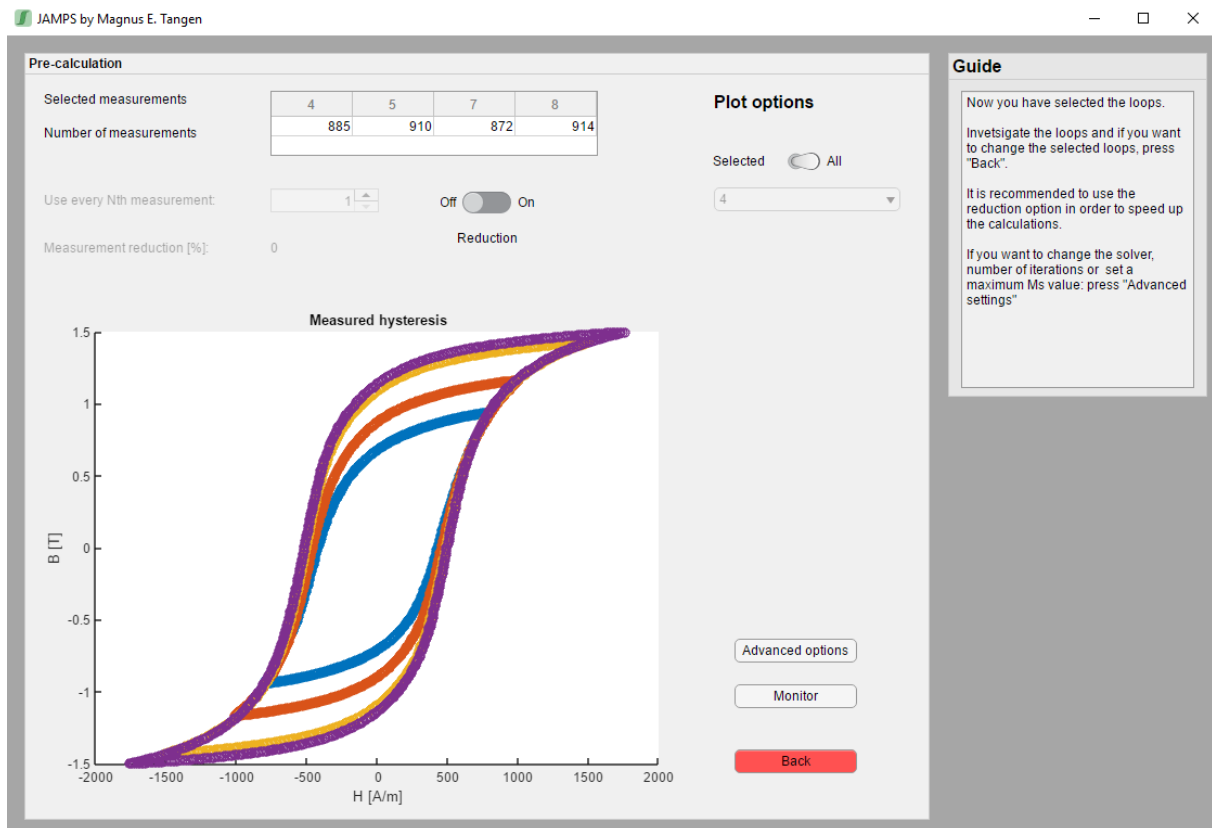

Figure 1.4: JAMPS manual - Pre-calculation page with plotted loops for inspection
- 3 Click 'Pre-calculation' to proceed to the Pre-calculation, as seen in Figure 1.4.